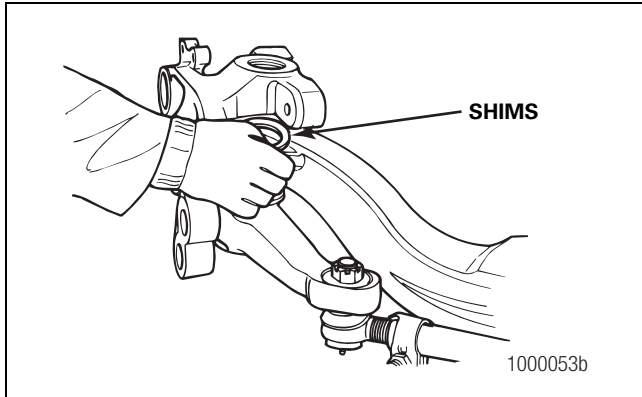

Figure 6.19
- After inspection, place the shims on top of the axle beam bore machined surface. Align the shims for king pin installation. Figure 6.19.